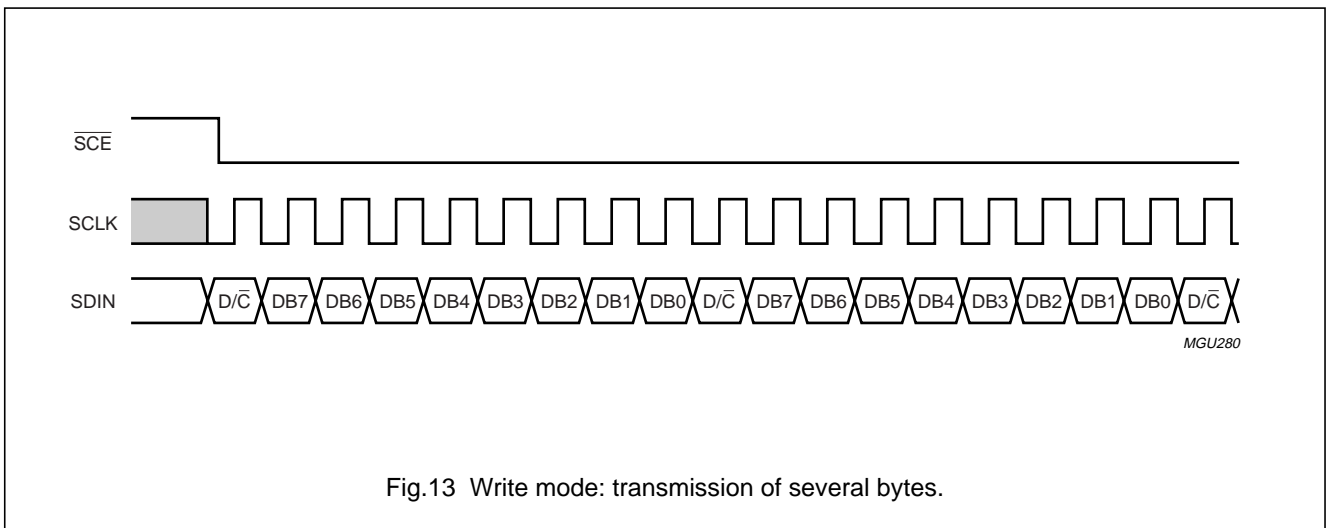

Fig.13 Write mode: transmission of several bytes.
- If $\overline{\text{SCE}}$ stays LOW after the last bit of a command or data byte, the serial interface expects the D/\overline{C} bit of the next byte at the next rising edge of SCLK (see Fig.13)